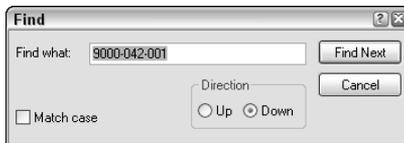

Figure 20-7: The Find dialog box.
2. Choose Data View ⇄ Find to open the Find dialog box, shown in Figure 20-7. (You can also right-click any cell in the column and choose Find.)